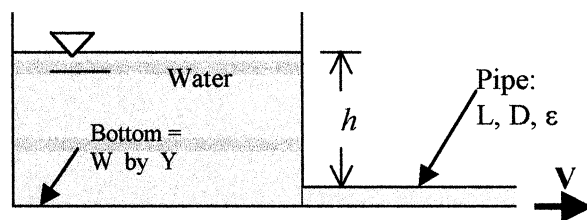

Fig. P6.54
6.54* A swimming pool W by Y by h deep is to be emptied by gravity through the long pipe shown in Fig. P6.54. Assuming an average pipe friction factor f_{av} and neglecting minor losses, derive a formula for the time to empty the tank from an initial level h_o .